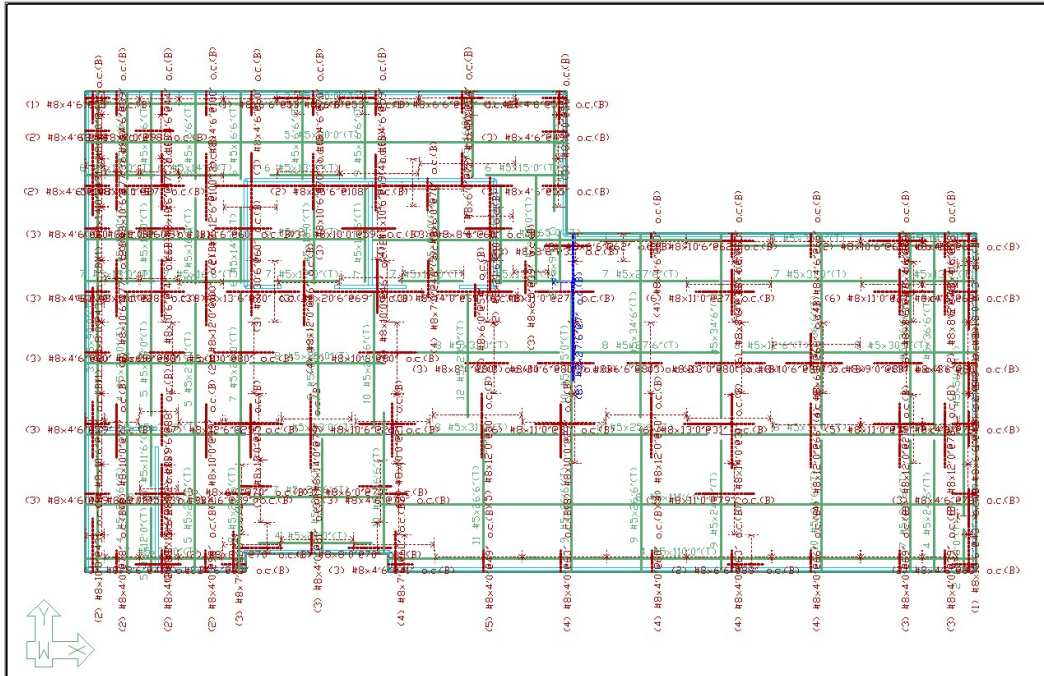

Figure 4.2-12 - Initial Rebar Arrangement
- The program will display the requirement of rebar at the top and bottom faces of the slab and/or beams at all positions for the enveloped condition (considering strength requirement and minimum rebar for service condition when required per code) as shown in **Figure 4.2-12**.